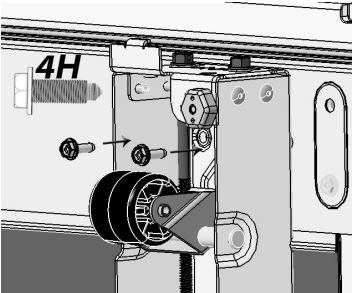

Fig. 5
- c. Using the 4H bolts from step 1, fasten the front of the Leveler Assembly to the refrigerator/freezer using a 5/16" nut driver (Fig. 5).